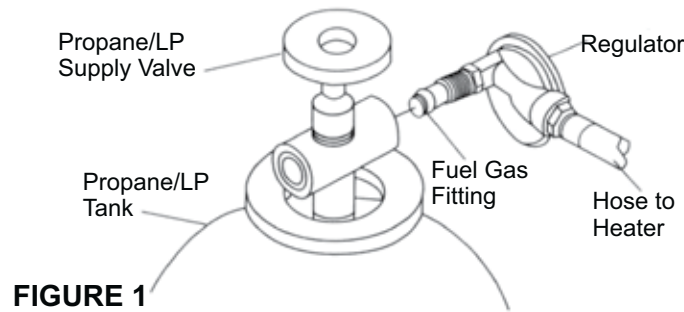

FIGURE 1
2. Connect fuel gas fitting hose/regulator assembly to propane LP tank(s). Turn fuel fitting counterclockwise into threads on tank. Tighten firmly using a wrench. Some models have a hand wheel that can be used to tighten the fitting. This hand wheel can be slid off of the nut so that a wrench can also be used to tighten the fitting. **IMPORTANT:** Position regulator so that hose leaving the regulator is in a horizontal position (see Figure 1)